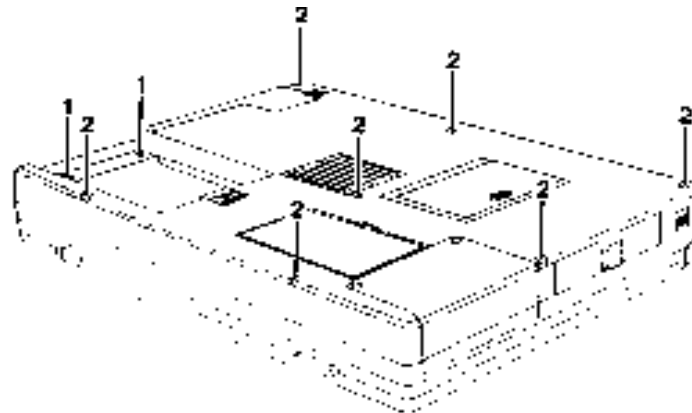

FIGURE 7-8. CHASSIS SECTION DISASSEMBLY/REASSEMBLY
3. PUT THE NOTEBOOK UPSIDE DOWN. REMOVE THE TWO SCREWS (FIGURE 7-8 #1) FROM THE BATTERY PACK COMPARTMENT.
4. REMOVE THE SEVEN BOTTOM SCREWS (FIGURE 7-8 #2).
3. CAREFULLY PLACE THE NOTEBOOK UPSIDE DOWN. REPLACE THE NINE SCREWS (FIGURE 7-8 #1).